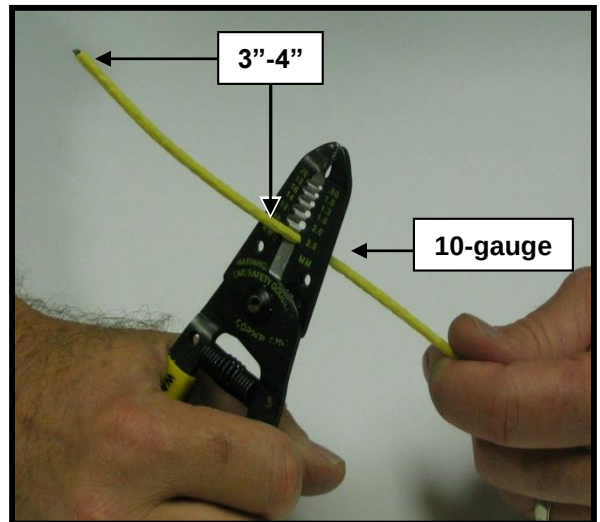
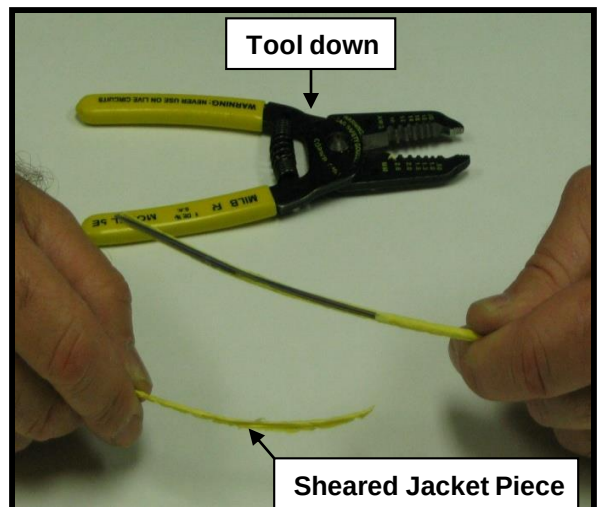

Figure 2
Figure 3
5.3 Stripping the Outer Foam Jacket; Use a wire stripper to strip the first 3" - 4" of the outer foam jacket. Next, insert the Fiber Bundle into the 10-gauge position of the of wire stripper so the Fiber Bundle is positioned "lays" at the same angle of the cutting blades. Use a light touch/squeeze to carefully shear off a portion of the outer jacket. *Once you've sheared the Jacket, put the tool down.* **See Fig. 2 and Fig. 3.**
Refer back to Fig. 2 and Fig. 3.